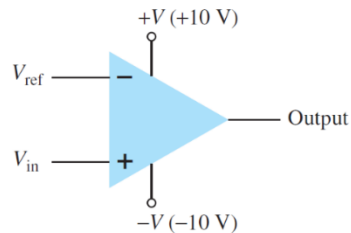

Figure 5.12
3. Build the circuit given in Fig.5.12.
- Sketch the waveforms which you observed on the scope for the circuits given in Fig. 5.11 and Fig. 5.12.